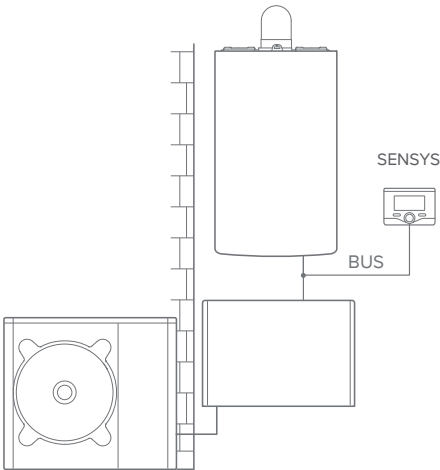

fig.7
Type 4**Activation of RD and RC in a basic hybrid system (Fig. 7)**
1. Stick the double-sided tape to the back of the support plate (Figure 7); remove the protective film and attach to the boiler;